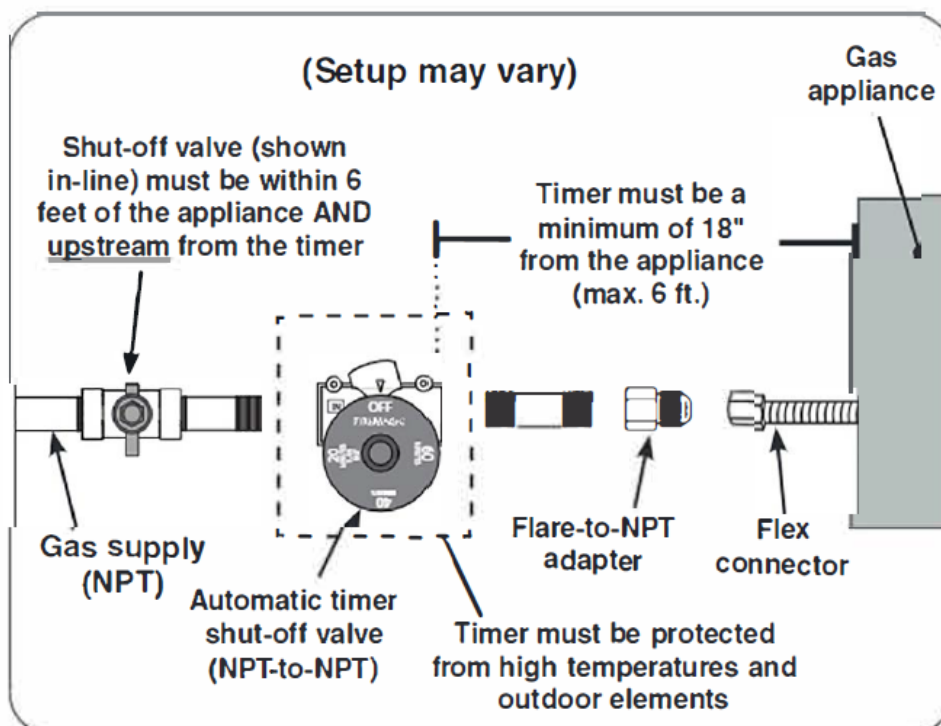

Fig. 1-1 Timer installation overview
In addition to following the CONNECT GAS SUPPLY section of the gas appliance owner's manual, install the timer in the gas supply line (between the shut-off valve and the appliance). See Fig. 1-1 and 1-2.
- Follow all information found in the requirements section above, in the gas appliance owner's manual. and fig 1-1 and 1-2.